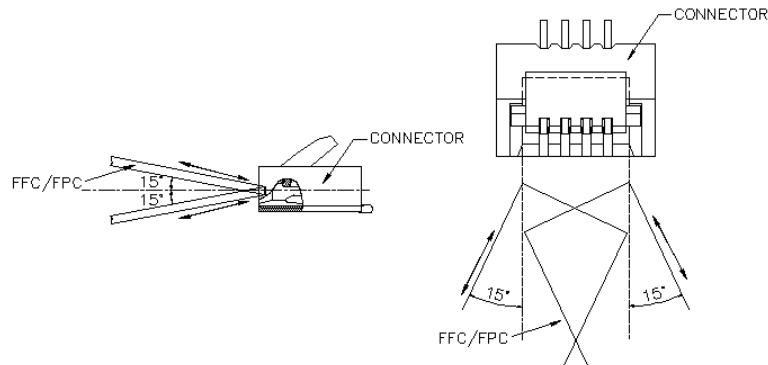

Figure 6.
- FPC/FFC to be insertion and withdrawal at an angle of about 15° , and the FPC/FFC should be inserted firmly all the way to the back. (see figure 6).